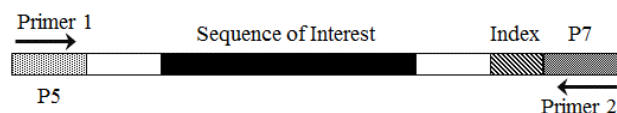

Figure 1. Structure of a typical fragment from an Illumina sequencing library.
6. The primers included in this kit are designed to anneal to the P5 and P7 regions at the ends of Illumina sequencing library fragments, sequences that are required for hybridization with the flow cell (Figure 1). Libraries not recognized by the primers cannot be quantified with this kit. The primers have the following sequences: